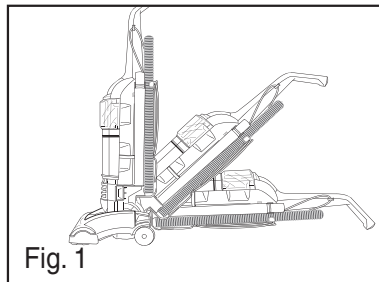

Fig. 1
1) Use handle release to lower handle flat onto floor (Fig. 1).
- 1) Remove hose from hose retainer. Flexing the hose will loosen any blockage (Fig 1).